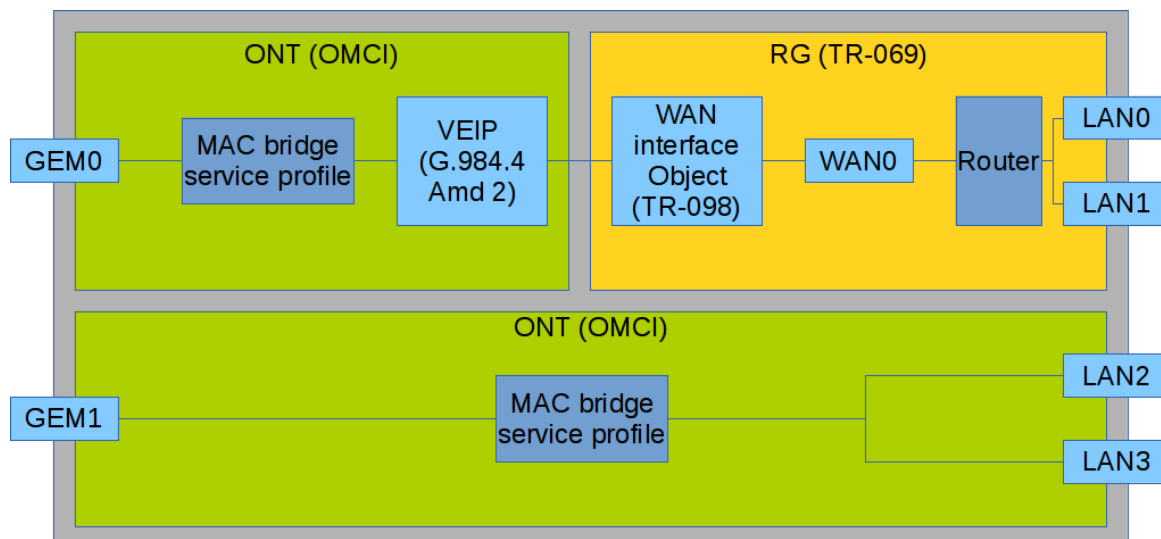

Figure 42 – Services configuration in ONT and RG domains
Figure 42 shows two services (each with a corresponding GEM port on the ONT side), with one of them being routed and using both the OMCI and RG management domains and the other one being bridged and using only OMCI for configuration. Access node configuration includes configuration of bridge interfaces (green areas in the figure) and distribution of LAN ports between the management domains.
Consider an example of ONT configuration, which simultaneously uses both management domains. Port numbers and the internal structure are shown in Figure 42.
Step 8. Configure *ports* profile. According to Figure 42, we need to associate the first two LAN ports with the RG management domain, while the other two should be associated with the OMCI domain and bound to bridge 1: